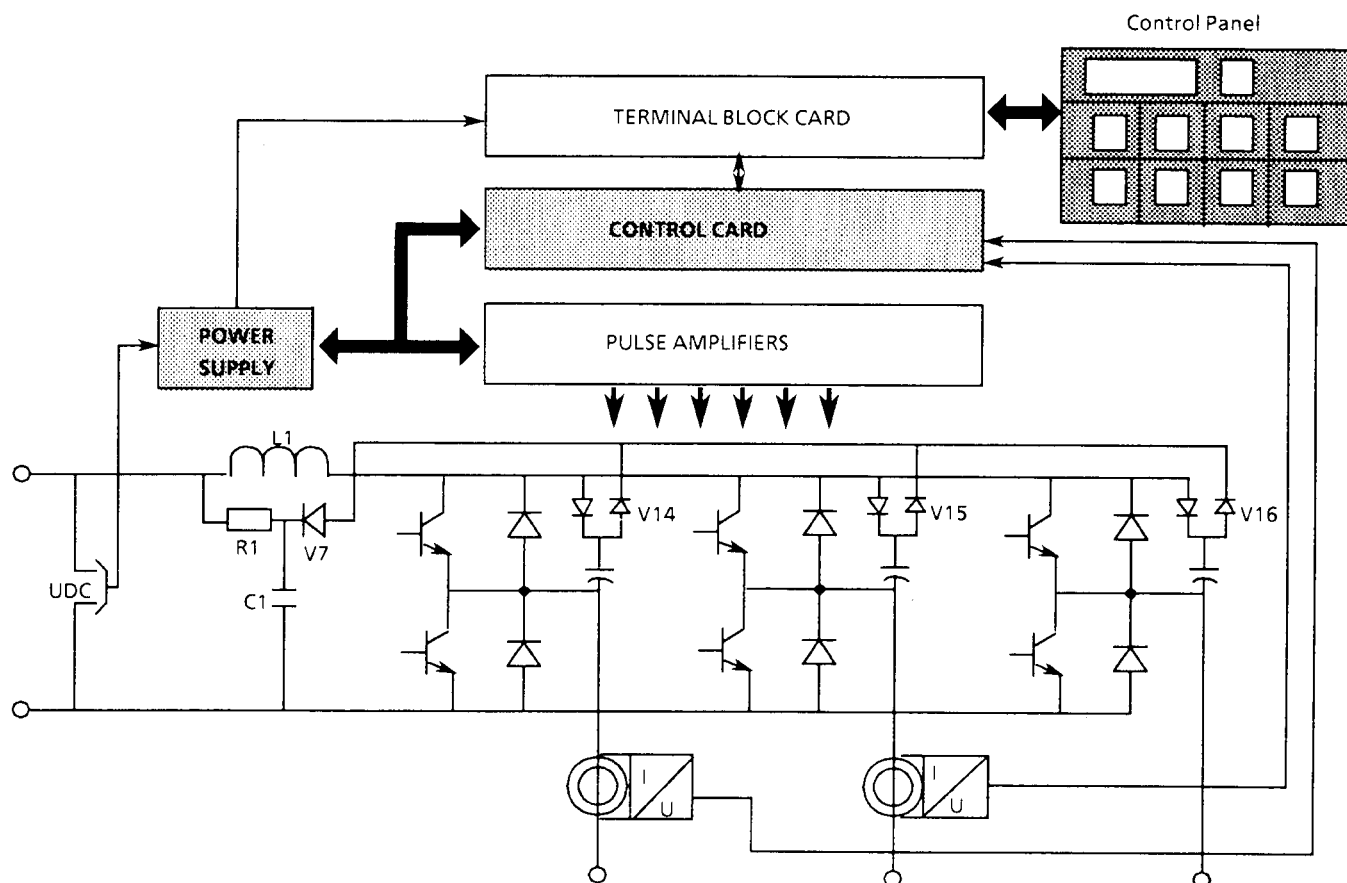

Figure 3-17. GTR Inverter Block Diagram
- 3-2.3.8 GTR Inverter** - The power conductors of the GTR inverter unit are placed in insulated modules which contain a transistor and a free wheeling diode (Figure 3-17). The power semiconductors are protected against line disturbances and voltage spikes that could create damaging overvoltage or overcurrent conditions. The di/dt protection is provided by choke L1, and dv/dt protection by individual snubbers. After commutation, the excess energy stored in the choke is transferred thru diodes V14 thru V16 to V7 and the clamping capacitor C1. The capacitor is then discharged to the capacitor bank via resistor R1. The control card, the power supply card and the pulse amplifier card are all at the minus potential of the main-circuit voltage.